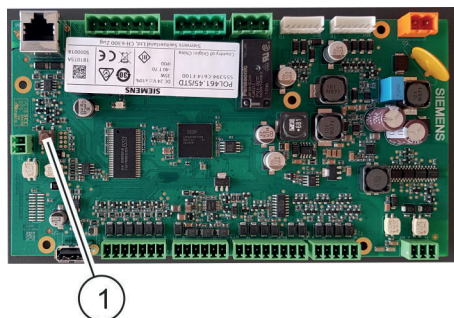

Fig. 13: Service button
4. ➤ Press and hold the service button (Fig. 13/1).